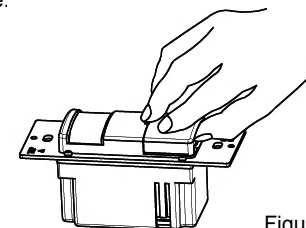

Figure 3
5. Remove the small cover plate. (illustrated as Figure 3.)
6. Locate the adjustment knobs on the control panel to perform test and adjustment.(illustrated as Figure 3.)